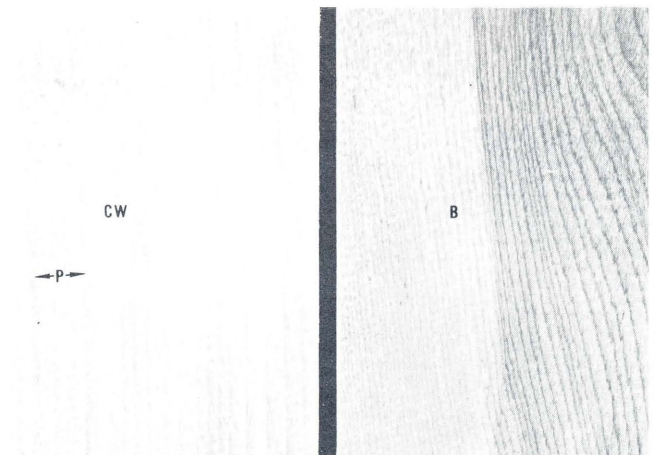

Figure 23 — Cottonwood, CW, with barely visible pores, P. Yellow birch, B, showing contrast between heartwood and sapwood.
29. Light reddish brown, hard, prominent tangential figure, pores can just be seen on tangential or radial surface (Fig. 23) **Yellow Birch**
31. Wood with tangential figure, hard, pores can barely be seen on tangential or radial surface (Fig. 23) **Yellow birch**